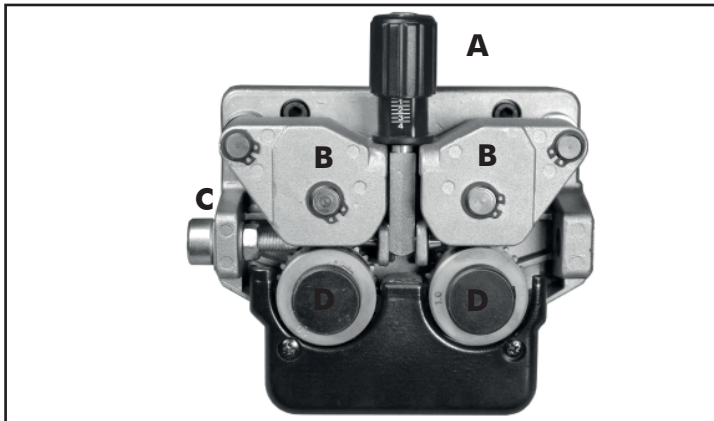

Figure 4 - Wire Feeding Motor
- Loosen and lower the plastic knob (A) (Figure 4). Open the pressure arm (B) of the feeder. (Extract the wire from the torch liner if some wire is left into the torch).
- When the wire is disconnected, grasp it with pliers so that it cannot exit from the spool. If necessary, straighten it before inserting it in the wire input guide (C). Insert the wire on the lower roll (D) and in the torch liner.
- Lower the pressure arm (B) and place the knob (A). Tighten slightly. If tightened too much, the wire gets locked and could cause motor damage. If not tighten enough, the rolls will not feed the wire.